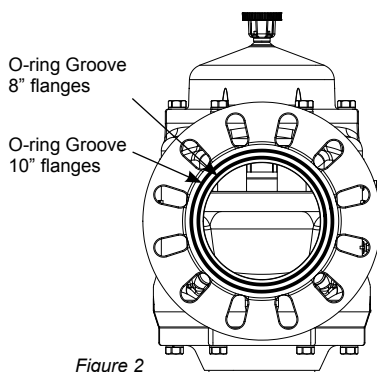

Figure 2
**FlowCon SM.6** (8"-10") contains two o-ring grooves (figure 2). Sealing is done on smallest diameter groove if 8" flanges are used and on the largest diameter groove if 10" flanges are used.